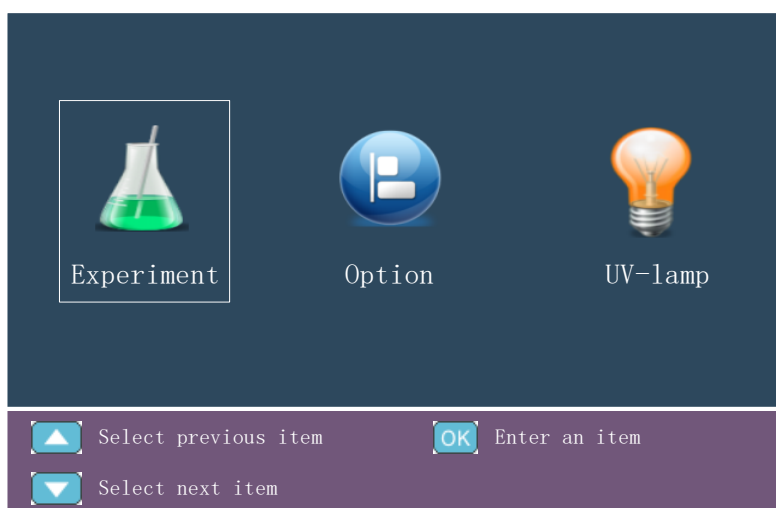

Figure 4-10. Select <  **Experiment** > Icon
2. Press  or  to select the <  **Experiment** > icon on the stand-by interface, as shown in figure 4-10.